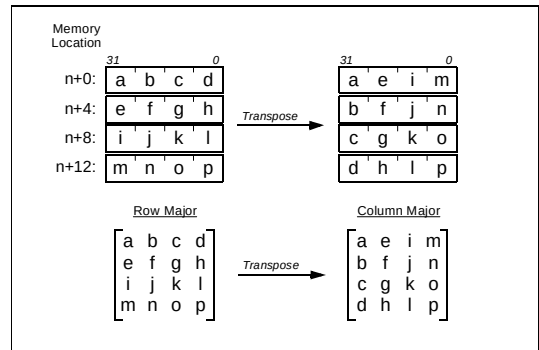
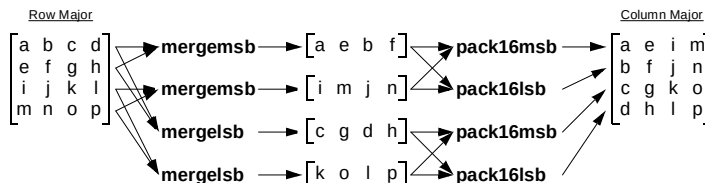

**Figure 4-1. Byte-matrix transposition. Top shows byte matrices packed into memory words; bottom shows mathematical matrix representation.**
**Figure 4-2.** Application of merge and pack instructions to the byte-matrix transposition of **Figure 4-1**.
Imagine that our task is to transpose a packed, 4-by-4 matrix of bytes in memory; the matrix might, for example, contain 8-bit pixel values. Figure 4-1 illustrates both the organization of the matrix in memory and the task to be performed in standard mathematical notation.
Figure 4-2 shows the application of these instructions to the byte-matrix transposition problem, and the left side of Figure 4-3 shows a list of the operations needed to implement the matrix transpose. When assembled into actual PNX1300 instructions, these custom operations would be packed as tightly as dependencies allow, up to five operations per instruction.
**Figure 4-3.** On the left is a complete list of operations to perform the byte-matrix transposition of **Figure 4-1** and **Figure 4-2**. On the right is an equivalent C-language fragment.